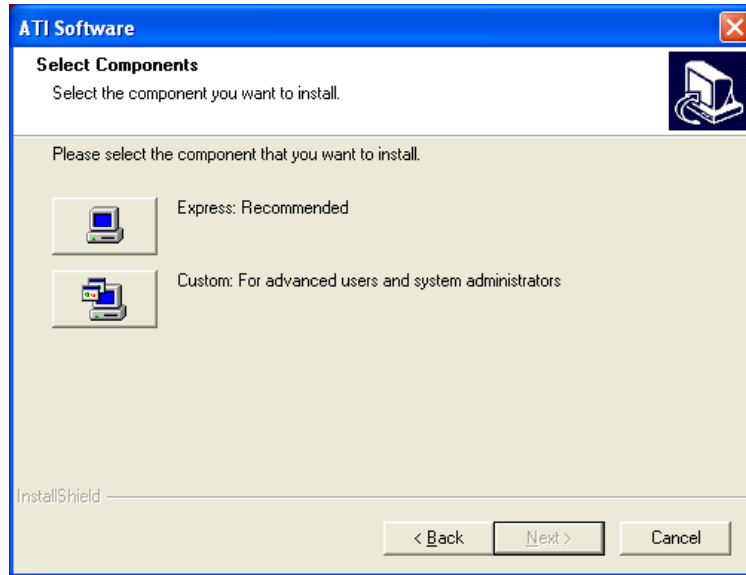

Figure 7-10: Chipset Driver Installation Complete
Step 13: The screen in Figure 7-10 appears.